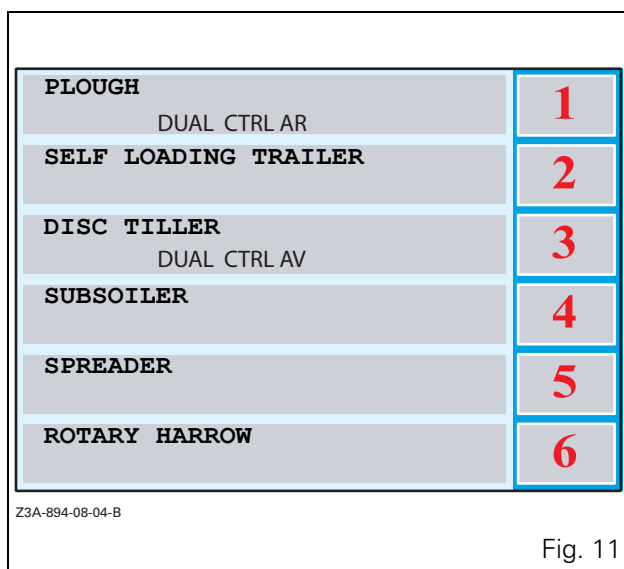

Fig. 11
- When the window (Fig. 11) is open, select the name of the memory to modify by pressing the corresponding key.